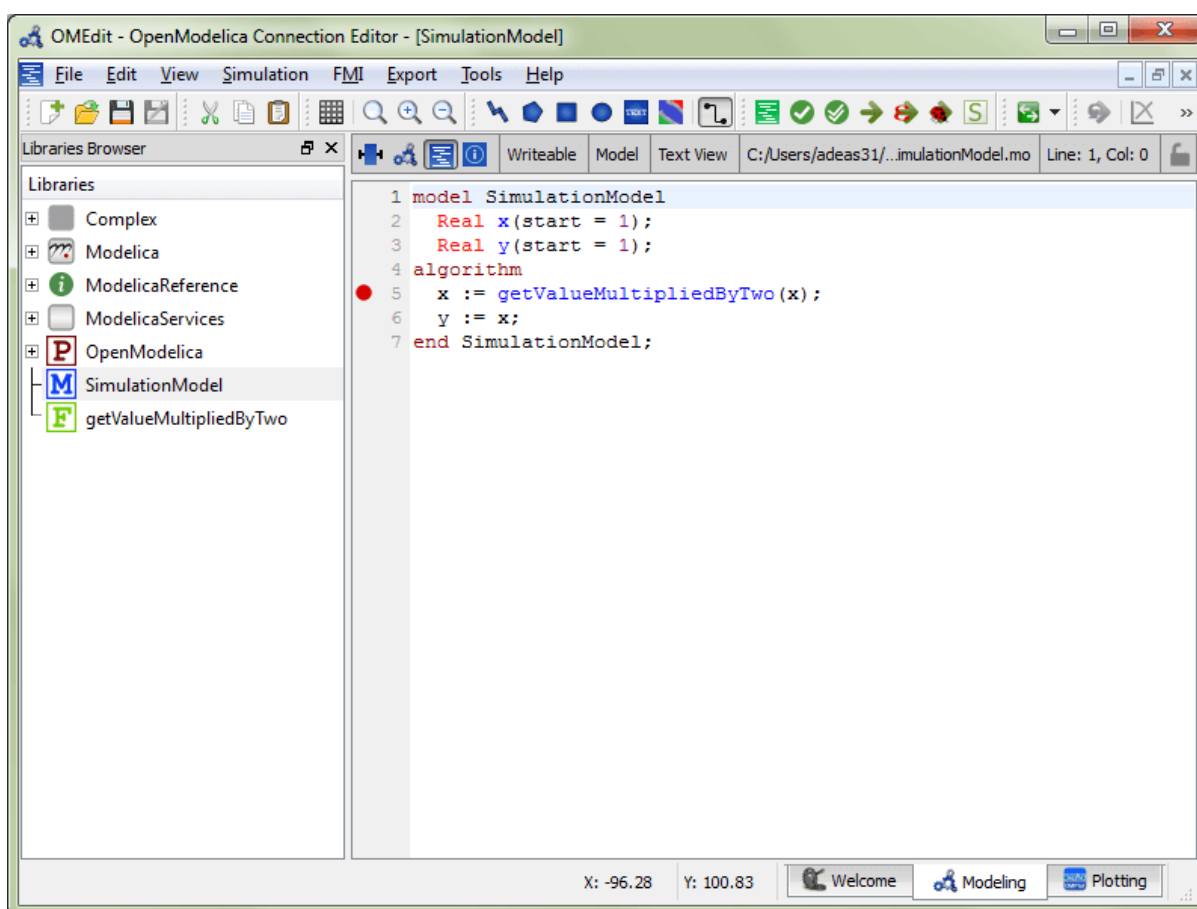

Figure 8.3: Adding breakpoint in Text View.
- Click directly on the line number in Text View, a red circle is created indicating a breakpoint as shown in Figure 8.3.